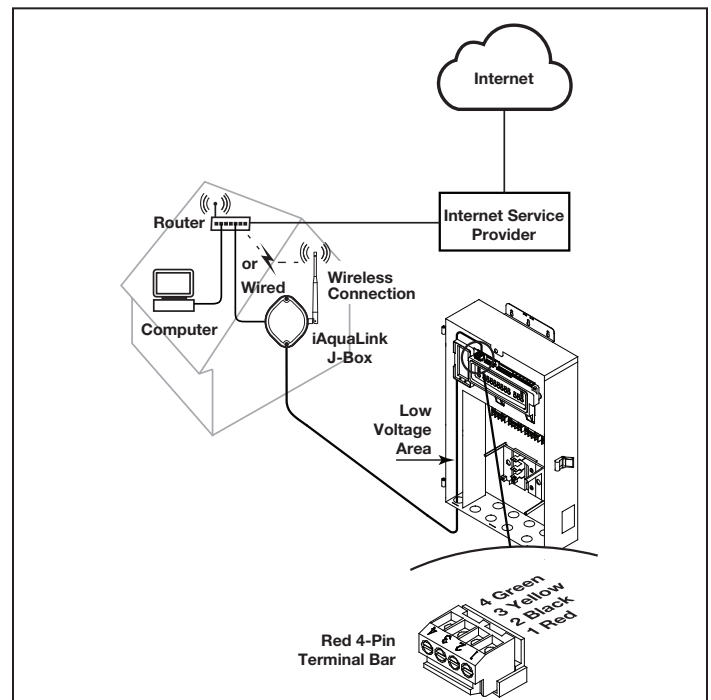

Figure 31. iAquaLink J-Box Indoor Installation
2. Mount the outdoor iAquaLink J-box at least six (6) feet (1,8 m) above the ground, at least ten (10) feet (3 m) from any motor or air blowers that may be in the vicinity, and at least five (5) feet (1.5 m) away from other transceiver J-boxes. See Figure 31.
5. Pull cable through the knockout and into the low voltage area. See Figure 31.
7. Strip each wire ¼" (6 mm) and connect to the red, wire connector on the power center PCB. A multiplex kit (P/N 6584) may be required if there are more than two (2) cables running to a red, wire connector on the power center PCB.